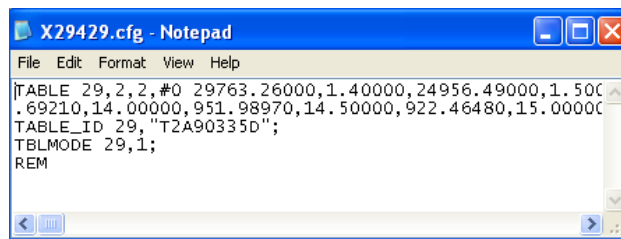

Figure 16. \*.cfg file before making any modifications
1. Insert the following statement just above the last line in the new \*.cfg file you created in the previous section (for examples, see Figures 16 and 17):